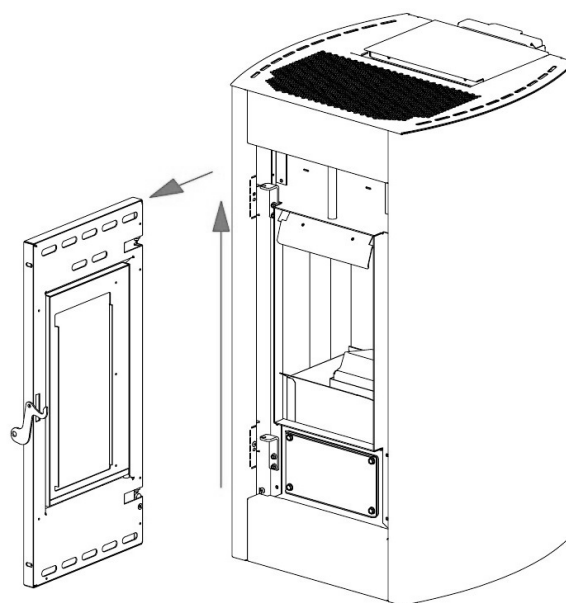

Fig. 32 - Door removal
- Lift the door to allow the door pivots to slide out of the structure bracket (see **Fig. 32**).